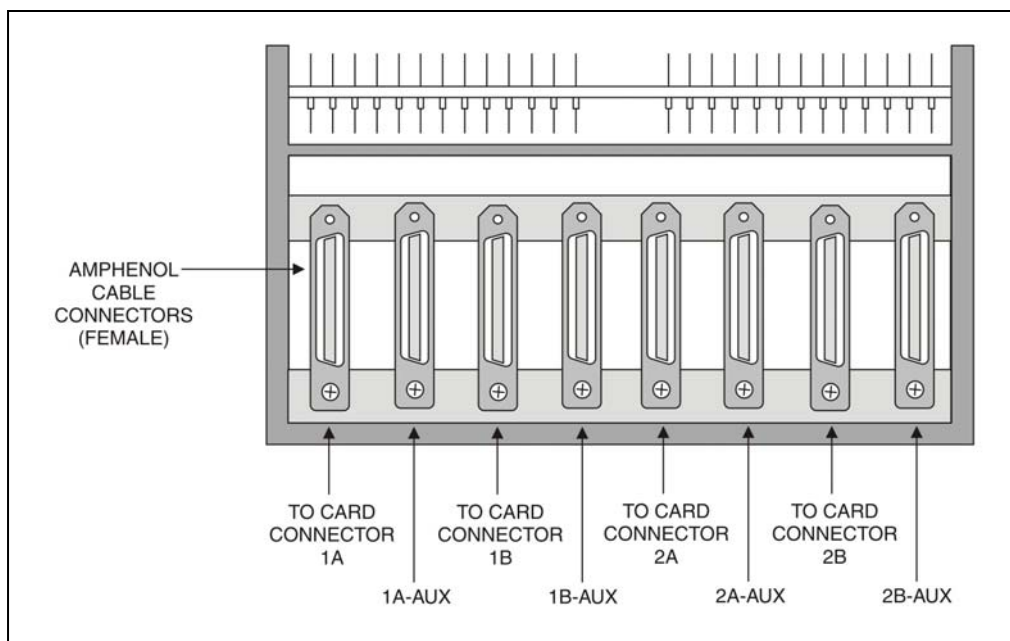

FIGURE 5-3: SUBSCRIBER CONNECTOR BLOCK (CABLE CONNECTORS)
Unlike the locking barbs on the block's primary cable connectors, cables can be connected and disconnected from the auxiliary connectors. For example, if you need to service the Subscribe Relay Card connected to the block's "Card 1" wire wrap pins, you would first connect a short cable (one with two male connectors) to the 1A-AUX and 1B-AUX connectors. This would allow you to disconnect the cables at the relay card without disrupting service. Cabling the 2A-AUX and 2B-AUX connectors will serve the same function for the subscriber card connected to the "Card 2" pins (FIGURE 5-3).
1. Connect one end of the auxiliary jumper cable to the subscriber block connector labeled 1A-AUX in Figure 5-3. Connect the other end of the auxiliary jumper cable to the subscriber block connector labeled 1B-AUX. This connects the first 25 subscriber pairs in the field to the CO equipment (via the connector blocks).
2. Connect one end of another auxiliary jumper cable to the subscriber block connector labeled 2A-AUX in Figure 5-3. Connect the other end of the auxiliary jumper cable to the subscriber block connector labeled 2B-AUX. This completes the connection between the next 25 subscriber pairs and the CO equipment.
4. With the power to the 289H restored, carefully disconnect the cable connector attached to the subscriber block connector labeled 1A-AUX in Figure 5-3. Now disconnect the other end of the auxiliary jumper cable from the subscriber block connector labeled 1B-AUX.